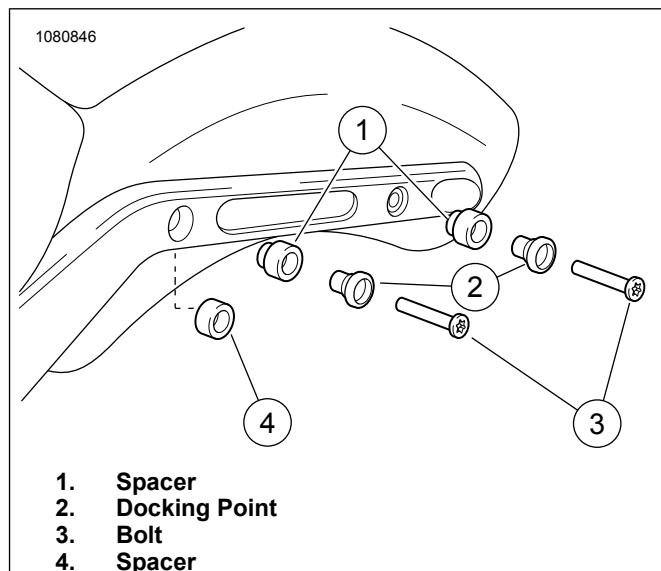

Figure 3. Fender Strut Docking Points
1. See Figure 3. Install spacer (1) and docking point (2) onto new fender strut bolt (3).
3. **Kits 90201513A, 90201645A:** Install spacer (4) on the front docking point between fender strut and spacer (1).